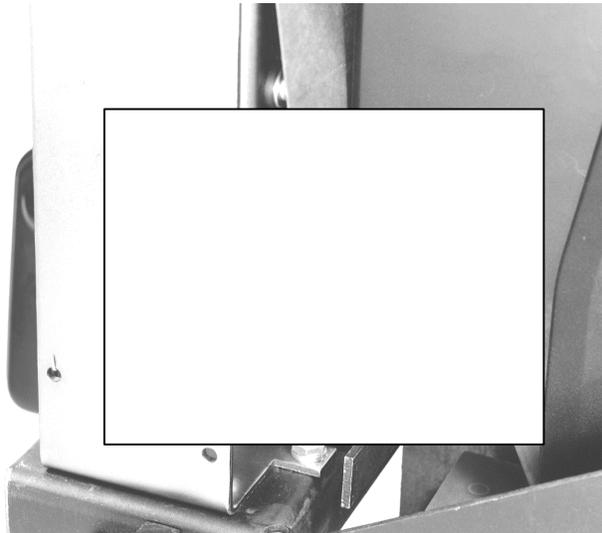

Figure 14. Mounting the flux shifter assembly.
2. Position the flux shifter assembly, ensuring that the $\frac{1}{2}$ "-diameter hole in the end of the reset link is placed over the end of the crossbar arm. Use the retaining ring provided to hold the link in place, as shown in Figure 14.
3. Fasten the assembly to the breaker with a $\frac{1}{4}$ -20 x $\frac{3}{4}$ " bolt and lock washer inserted through the hole in the back of the assembly, as shown in Figure 14. Insert a $\frac{1}{4}$ -20 x $\frac{3}{4}$ " bolt through the assembly and the hole drilled in step 1 and secure with the lock washer and nut provided.